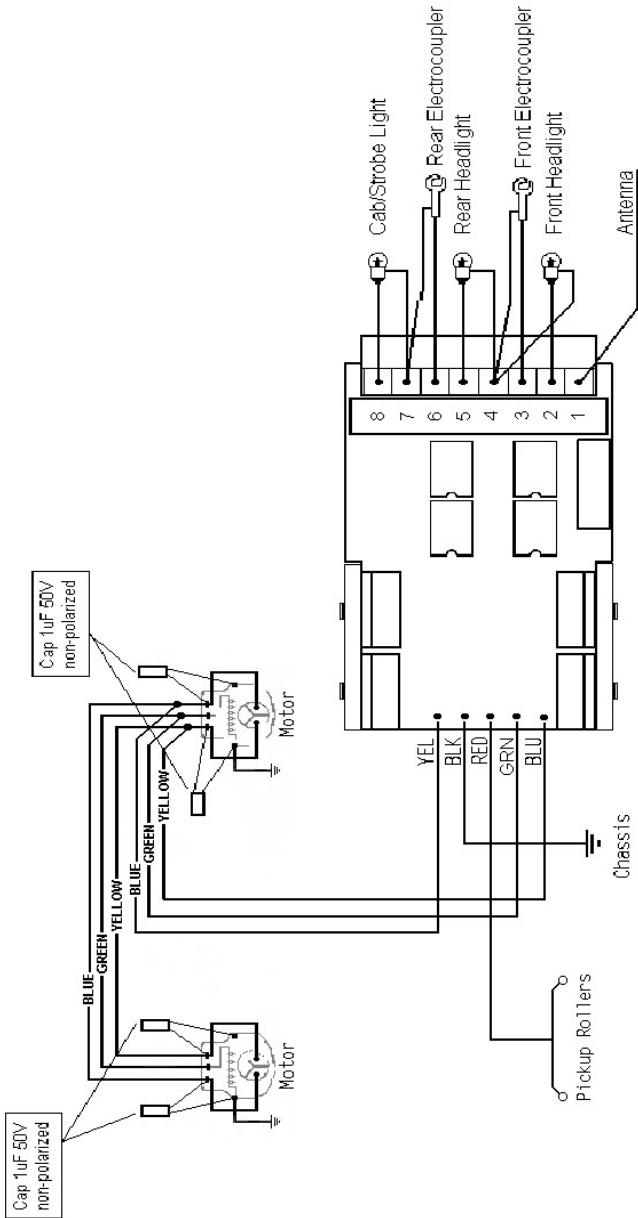

Figure 4 - Lionel Single or Dual AC Motor Wiring Diagram
Refer to figure 4 for while performing the following steps. The wiring diagram illustrates how the various signals are routed through the tether. Begin with the tender. Note that the wiring is fairly straightforward. Bear in mind that the tender side of connector appears in the drawings as a mirror image of its mating connector. As you make each connection, verify that each one is correct and that it will mate properly with the engine. It is strongly suggested that you adhere to the same wiring convention for all your engines so that you can interchange tenders among them if desired.
2. Referring to the Steam Wiring Diagram of figure 4, make all connections to the motor, headlamp, smoke unit, pickup rollers and chassis. Although soldering is the preferred method, you can use the wire nuts enclosed with the kit to make the motor and power connections.